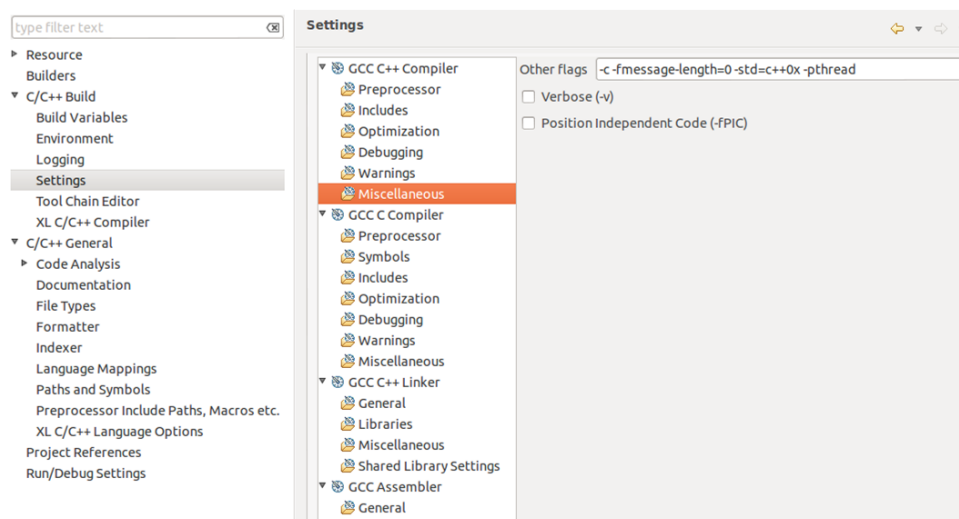

Figure 2: Project settings
- Navigate to *C/C++ Build* → *Settings* → *GCC C++ Compiler* → *Miscellaneous* and add "*-std=c++0x -pthread*" to *Other flags* textfield (see Figure 2). Add the same line to *C/C++ Build* → *Settings* → *GCC C++ Linker* → *Miscellaneous* → *Linker flags*.